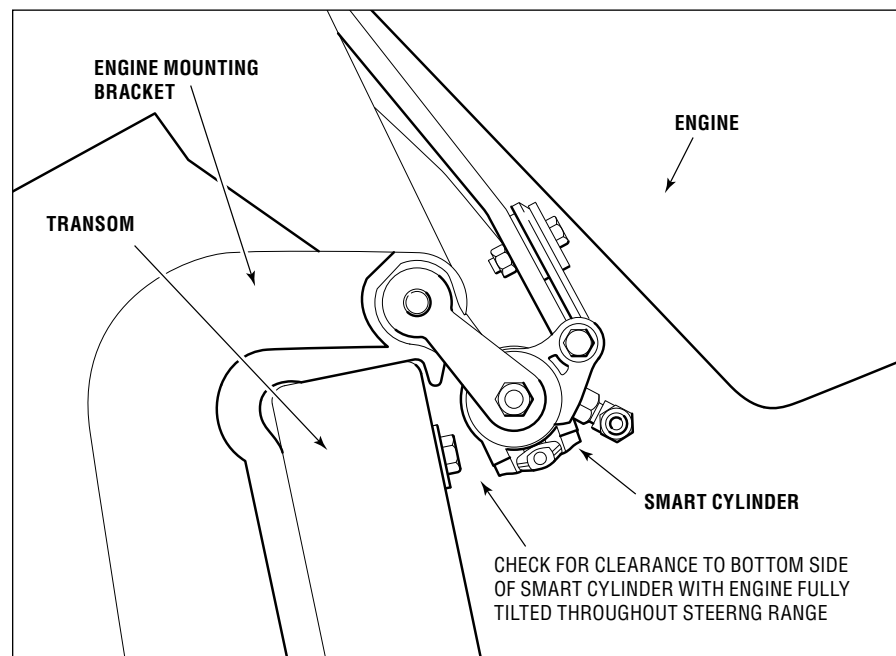
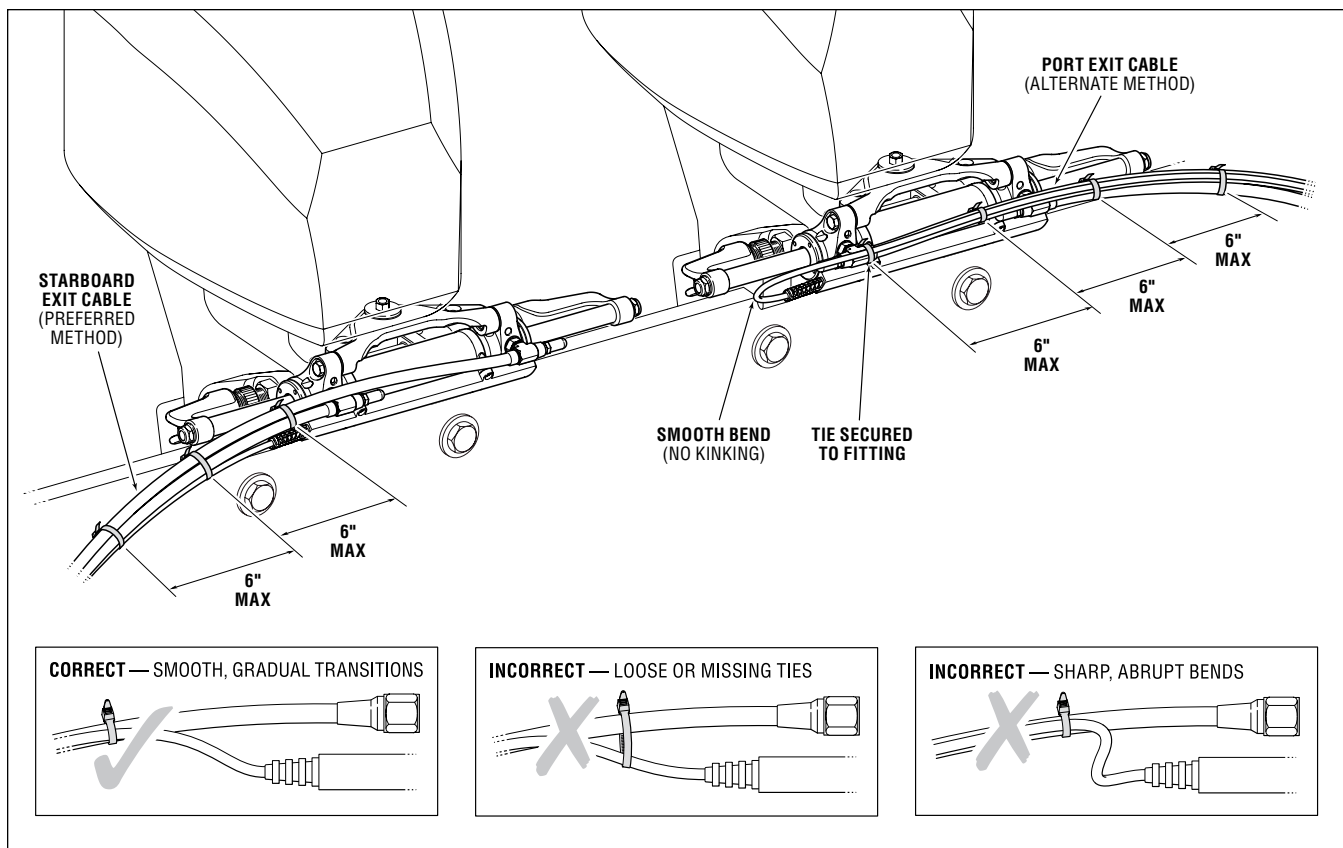

Figure 8-5. Engine side view when tilted.
Figure 8-6. Sensor cable and hose routing checks.
1. Interference Checks – Confirm that there is no interference between the steering cylinder(s), splashwell, outboard engine, or any combination of these parts, by performing the steps below. For each step also check that the hoses and cables are moving freely with no rubbing or binding (see figure 8-5 and figure 8-6). Be sure to steer slowly while performing these checks.
2. Sensor cable – Confirm that the SmartCylinder Sensor Cable is tied securely to the hoses with gradual bends as shown figure 8-6.